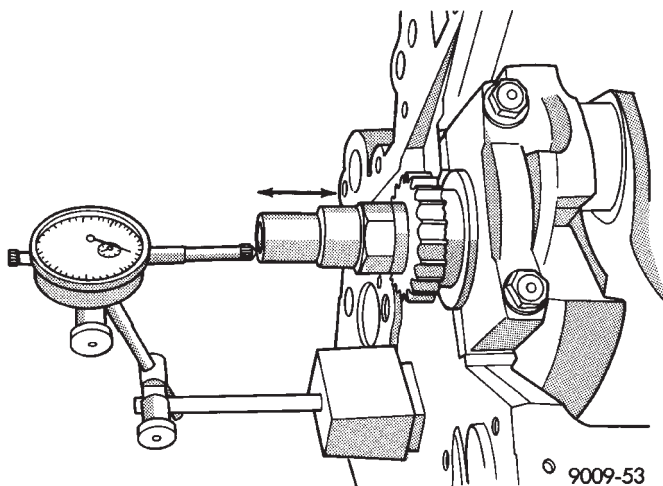

Fig. 17 Checking Crankshaft End Play
- (1) Mount a dial indicator to front of engine, locating probe on nose of crankshaft (Fig. 17).
- (2) Move crankshaft all the way to the rear of its travel.
- (3) Zero the dial indicator.
- (4) Move crankshaft all the way to the front and read the dial indicator. Specifications: New Part: 0.09 to 0.24 mm (0.004 to 0.009 in.)